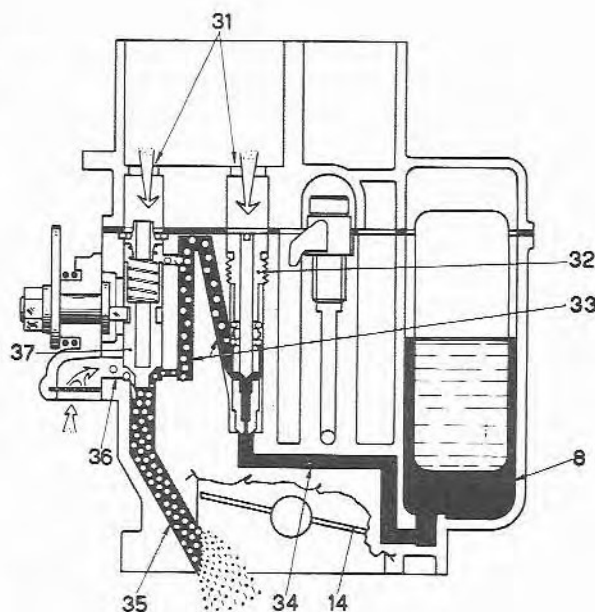

Fig. 13.1 Cold starting phase (Sec 3)
Refer to Fig. 13.1 and note that when the choke cable is pulled, the starting device operating lever turns the control shafts which lift the starting valves off their seats. Fuel from the float chamber (8) is drawn through channels (34) into the starting jets (32) where it is emulsified with air entering through the top of the starting jets (32). The mixture is then drawn through channels (33) where it is further emulsified with air from the hole (31). After passing the starter valves (37) where additional air from holes (36) weakens the mixture, the final mixture is drawn through channels (35) into the engine below the throttle valves (14).